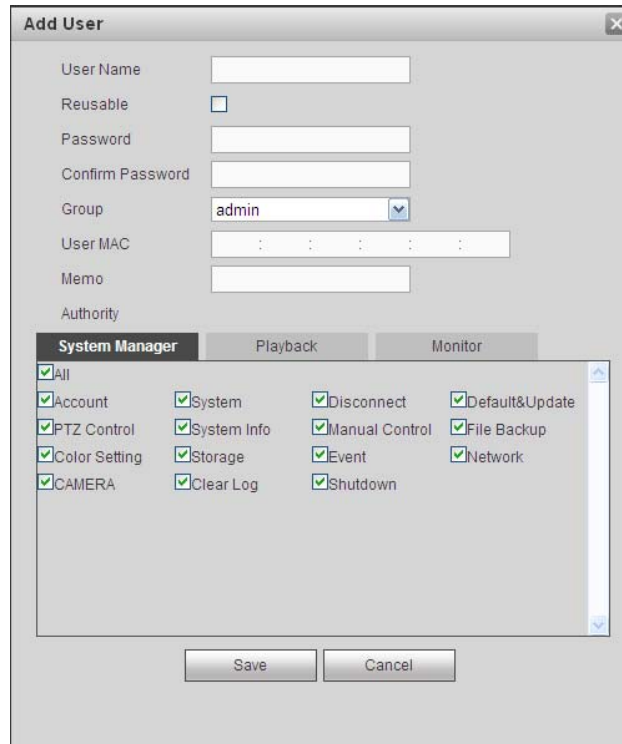

Figure 5-137
**Add user:** It is to add a name to group and set the user rights. See Figure 5-137.